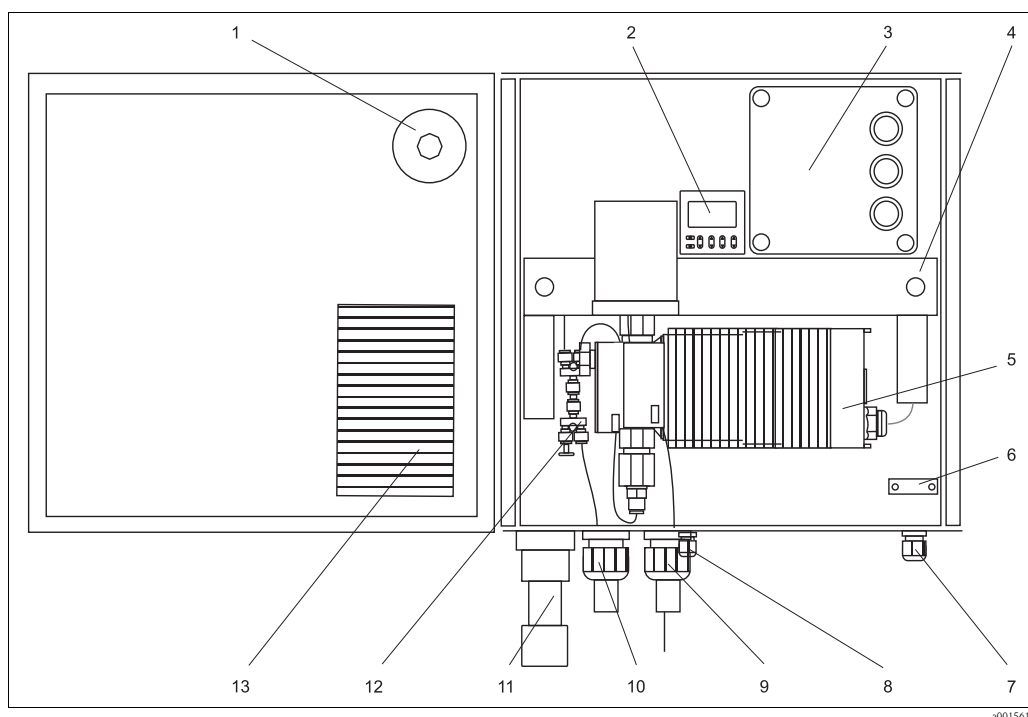

Fig. 10: Control box
8. Guide the power cable for the thermal switch from the left into the cable duct (→ Fig. 10, item 4) to the connection box (item 3).